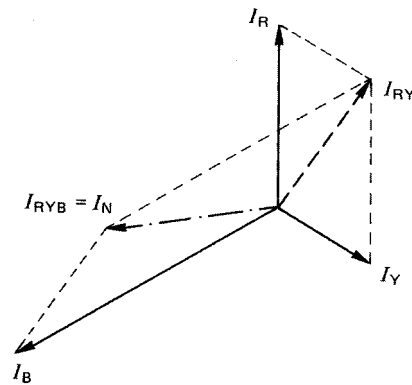

Fig. 7.5
**Unbalanced three-phase a.c. systems (Fig. 7.5)**
In an unbalanced system the resultant current will be the neutral current (Fig. 7.5).